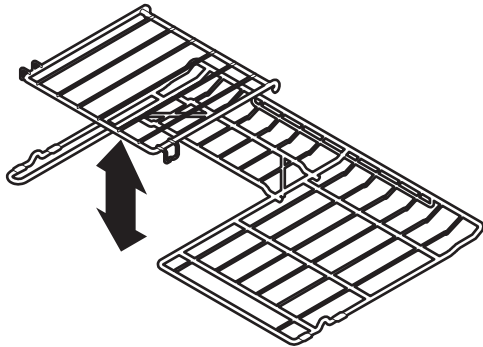

**Figure 1**
- **Flat handle oven rack** (Figure 1).